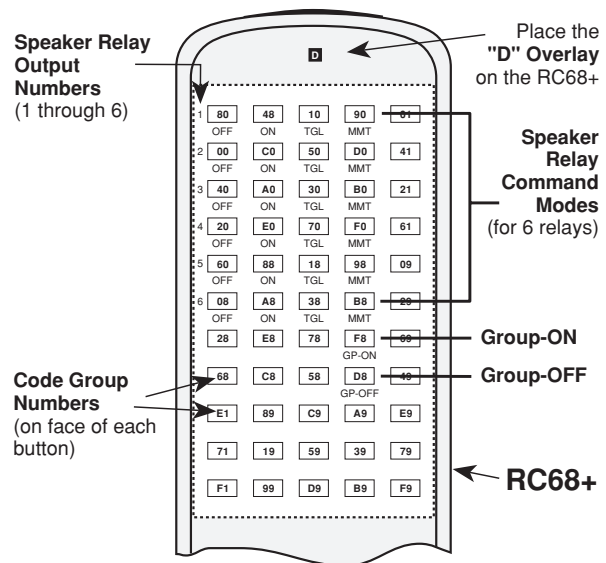

Fig. 2 RC68+ Programmer
The RC68+ Programmer (available separately) contains all commands necessary to operate the 686-10 (see Fig. 2).
(With the "D" Overlay. Refer to Fig. 2)
4. When using multiple 686-10's or in combination with a 680-10 or other devices that respond to RC68+ codes, be sure each is set to a different IR CODE GROUP. Refer to **Fig. 2** and the RC68+ Programmer Instructions.